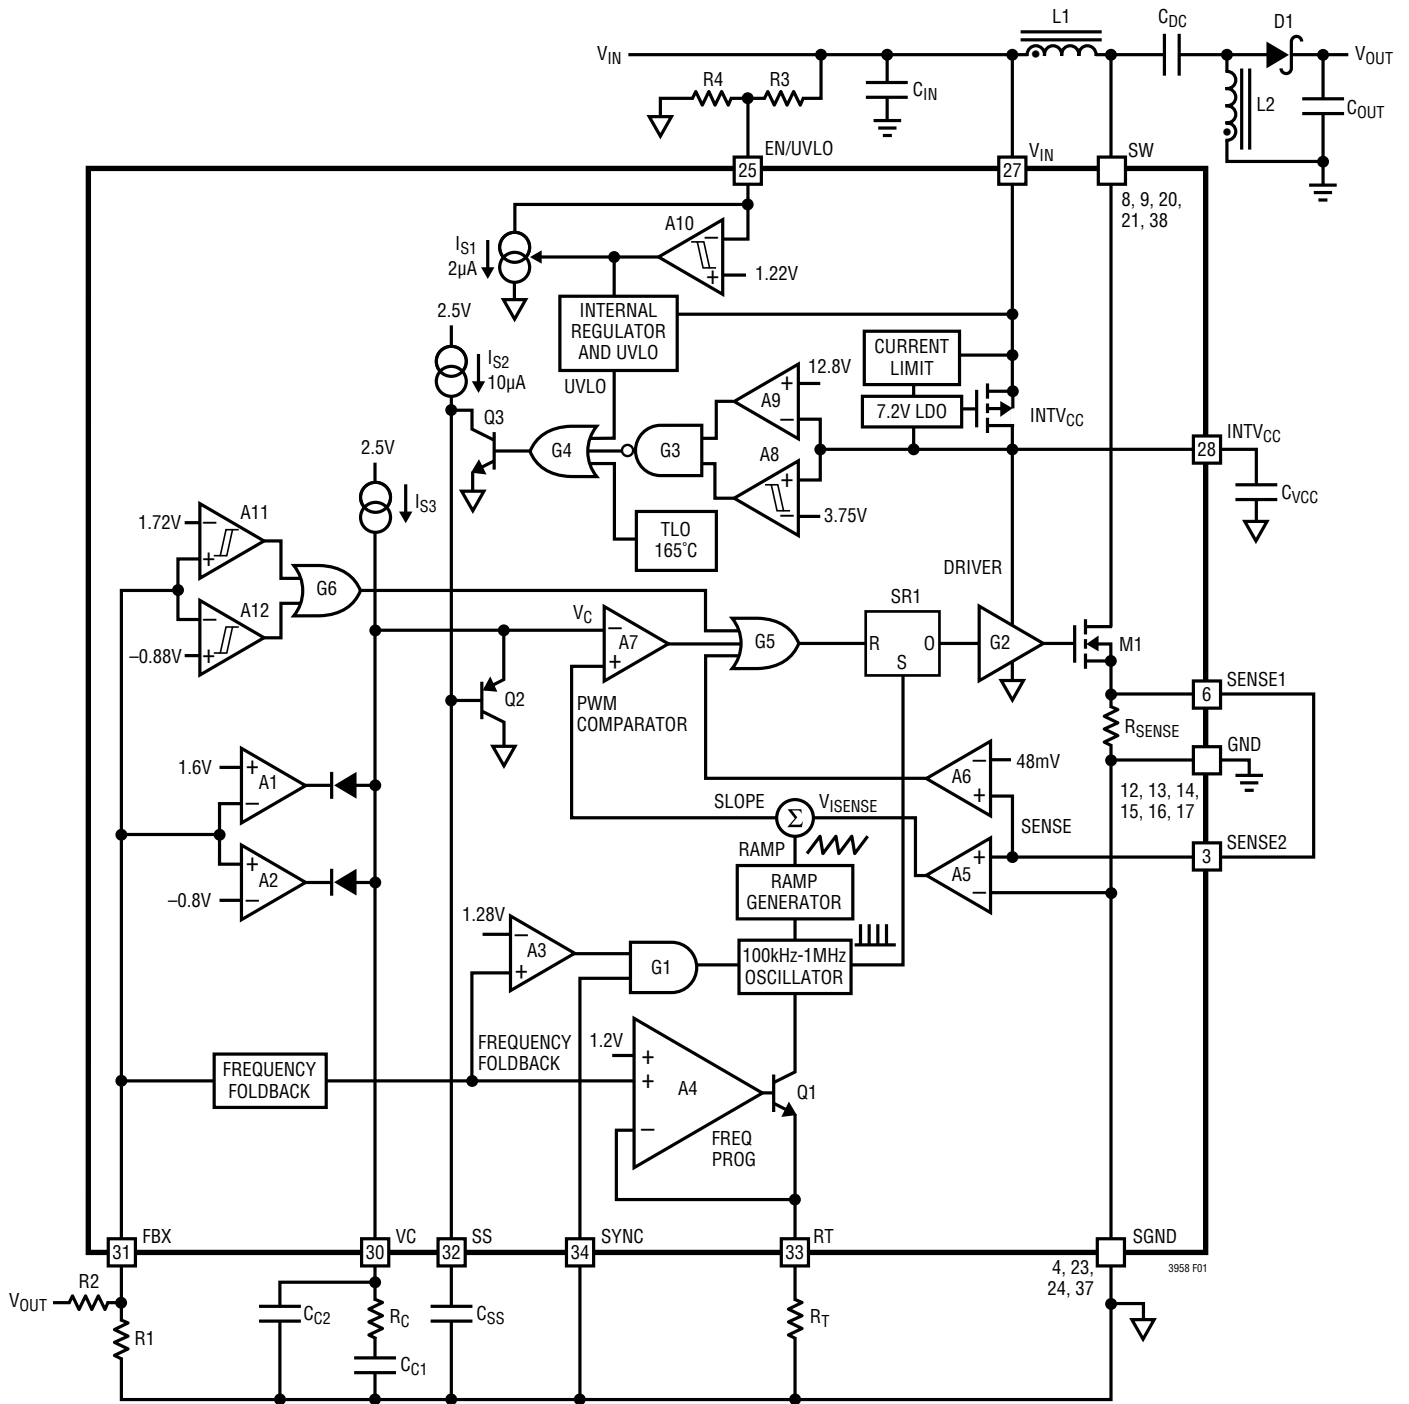

Figure 1. LT3958 Block Diagram Working as a SEPIC Converter
The LT3958 uses a fixed frequency, current mode control scheme to provide excellent line and load regulation. Operation can be best understood by referring to the Block Diagram in Figure 1.
The LT3958 is capable of generating either positive or negative output voltage with a single FBX pin. It can be configured as a boost, flyback or SEPIC converter to generate positive output voltage, or as an inverting converter to generate negative output voltage. When configured as a SEPIC converter, as shown in Figure 1, the FBX pin is pulled up to the internal bias voltage of 1.6V by a voltage divider (R1 and R2) connected from  $V_{OUT}$  to SGND. Comparator A2 becomes inactive and comparator A1 performs the inverting amplification from FBX to VC. When the LT3958 is in an inverting configuration, the FBX pin is pulled down to  $-0.8V$  by a voltage divider connected from  $V_{OUT}$  to SGND. Comparator A1 becomes inactive and comparator A2 performs the noninverting amplification from FBX to VC.
The purpose of this current is to allow the user to program the rising hysteresis. The Block Diagram of the comparator and the external resistors is shown in Figure 1. The typical falling threshold voltage and rising threshold voltage can be calculated by the following equations:
An internal, low dropout (LDO) voltage regulator produces the 7.2V INTVCC supply which powers the gate driver, as shown in Figure 1. The LT3958 contains an undervoltage lockout comparator A8 and an overvoltage lockout comparator A9 for the INTVCC supply. The INTVCC undervoltage (UV) threshold is 3.75V (typical), with 0.15V hysteresis, to ensure that the internal MOSFET has sufficient gate drive voltage before turning on. The logic circuitry within the LT3958 is also powered from the internal INTVCC supply.
The choice of operating frequency may be determined by on-chip power dissipation (a low switching frequency may be required to ensure IC junction temperature does not exceed 125°C), otherwise it is a trade-off between efficiency and component size. Low frequency operation improves efficiency by reducing gate drive current and MOSFET and diode switching losses. However, lower frequency operation requires a physically larger inductor. Switching frequency also has implications for loop compensation. The LT3958 uses a constant-frequency architecture that can be programmed over a 100kHz to 1000kHz range with a single external resistor from the RT pin to ground, as shown in Figure 1. The RT pin must have an external resistor to SGND for proper operation of the LT3958. A table for selecting the value of  $R_T$  for a given operating frequency is shown in Table 1.
The output voltage  $V_{OUT}$  is set by a resistor divider, as shown in Figure 1. The positive and negative  $V_{OUT}$  are set by the following equations:
The LT3958 addresses this mechanism with the SS pin. As shown in Figure 1, the SS pin reduces the power MOSFET current by pulling down the VC pin through Q2. In this way the SS allows the output capacitor to charge gradually toward its final value while limiting the start-up peak currents. The typical start-up waveforms are shown in the Typical Performance Characteristics section. The inductor current  $I_L$  slewing rate is limited by the soft-start function.
Loop compensation determines the stability and transient performance. The LT3958 uses current mode control to regulate the output which simplifies loop compensation. The optimum values depend on the converter topology, the component values and the operating conditions (including the input voltage, load current, etc.). To compensate the feedback loop of the LT3958, a series resistor-capacitor network is usually connected from the VC pin to SGND. Figure 1 shows the typical VC compensation network. For most applications, the capacitor should be in the range of 470pF to 22nF, and the resistor should be in the range of 5k to 50k. A small capacitor is often connected in parallel with the RC compensation network to attenuate the VC voltage ripple induced from the output voltage ripple through the internal error amplifier. The parallel capacitor usually ranges in value from 10pF to 100pF. A practical approach to design the compensation network is to start with one of the circuits in this data sheet that is similar to your application, and tune the compensation network to optimize the performance. Stability should then be checked across all operating conditions, including load current, input voltage and temperature. Application Note 76 is a good reference.